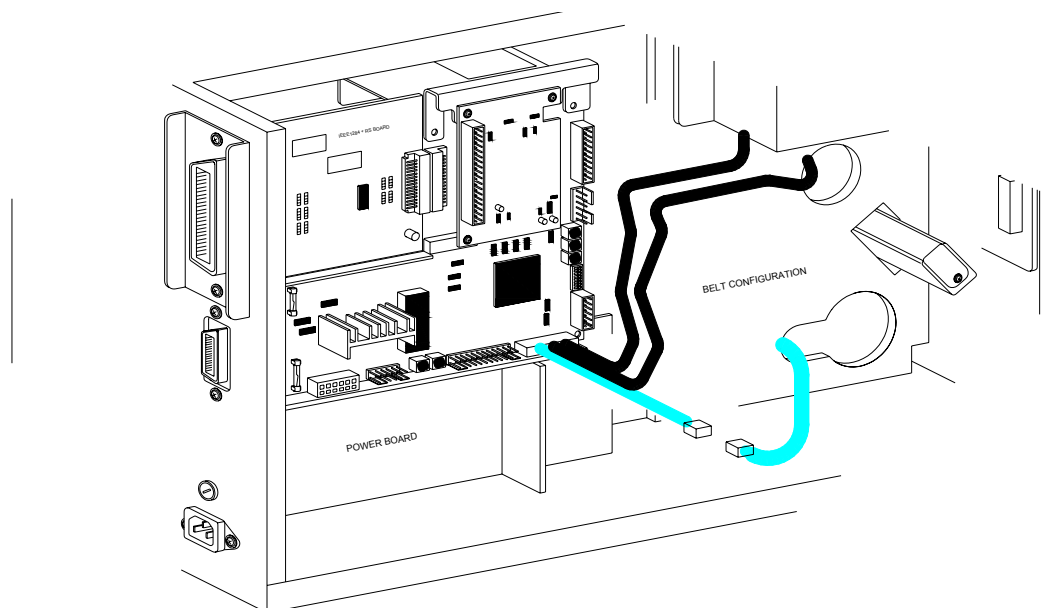

Figure 7-16, Wiring Harness Connection
- 10 Connect the wiring harness of replacement label-out sensor switch (1) to the main circuit board. Refer to Figure 7-16 for guidance.